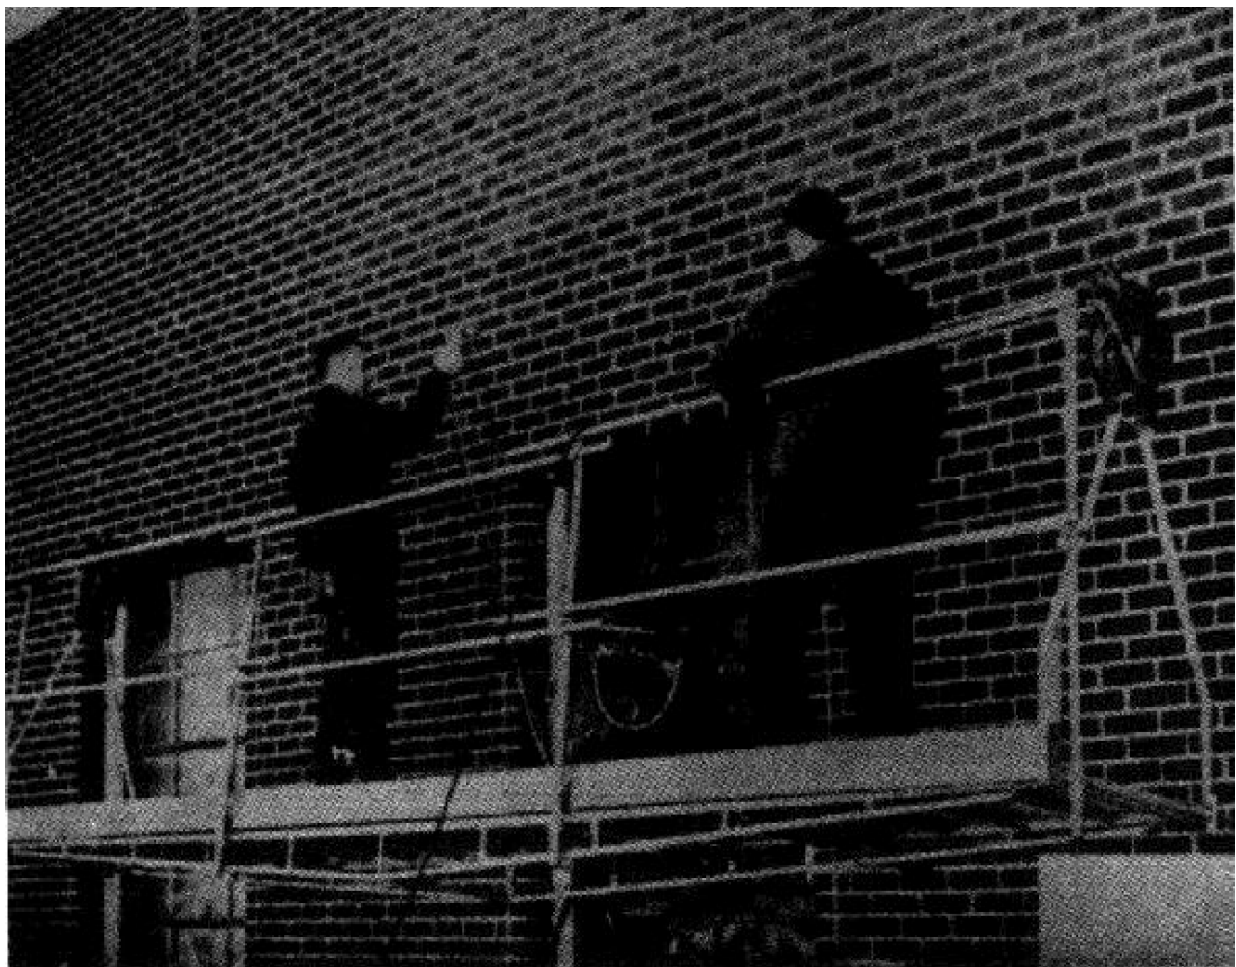

FIGURE 3-22
d. Swinging Scaffolds, Swing Stages, Bosun Chairs (See Figures 3-22 through 3-24):
(1) Always read instructions on the proper use and maintenance of the equipment. Follow prescribed load capacities.
(2) Stages should be at least 27 inches wide and supplied with guard rails (not rope).
(3) Only experienced personnel are permitted to erect or operate stages. Check ropes and blocks before use by suspending stages 1 foot off the ground and loading at least 4 times the anticipated work load. Before locating on the job site, check for nearby electric power lines.
(4) Power stages should have free fall safety devices with hand controls in case of power failure.
(5) Scaffold machines, either powered or hand powered, shall be worm geared or powered both ways. Design must be such that the scaffold cannot move when the power is stopped.
(6) In addition to the normal operating brake, all power-driven units shall have an emergency brake which engages automatically when the normal speed of descent is exceeded.
(7) Suspended scaffolds shall be guyed, braced, or equipped with tag lines to prevent swaying.
(8) Brackets shall be wrought iron or mild steel. No reinforcing steel shall be used as any part of a support system. Brackets shall have attachments for guard rails, intermediate rails, and toeboards.
(9) Suspended scaffolds shall have a guard rail, an intermediate rail, and toe-board.
(10) Inspect all parts before use. Each worker on a suspended scaffold shall be protected by a safety belt attached to a lifeline by a lanyard and fall preventive device. No more than two men shall be permitted to work at one time on suspension scaffolds designed for a working load of 500 pounds and no more than three on a suspension scaffold designed for a working load of 750 pounds. The working load includes men and equipment.